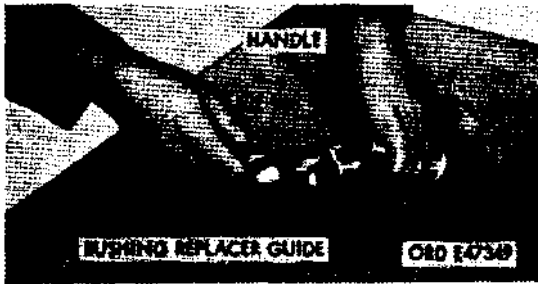

Figure 560. Using busher replacer guide 5120-792-1612 and handle 5120-601-2234
- (1) Install bushing (C4, view 3, fig. 559) in cylinder head (C5), using bushing replacer guide 5120-792-1612 and handle 5120-601-2234 as shown in figure 560.
- (2) Install packing nut (C2) and packing (C3) on piston rod (B) (b above).
- (3) Slide cylinder head on to piston rod (B), being careful not to damage wiper strip (C1) when passing over threads at end of piston rod. Install O-ring (C6) on cylinder head (C5).
- (4) Install O-ring (D1), piston (D3) with ring (D2), U-cup (D4), retainer (D5), washer (D6), and nut (D8) on piston rod.
- (5) Tighten nut and secure with lockwire (D7).
- (6) Insert piston assembly in cylinder body and tighten cylinder head securely with spanner wrench 5120-713-2624.